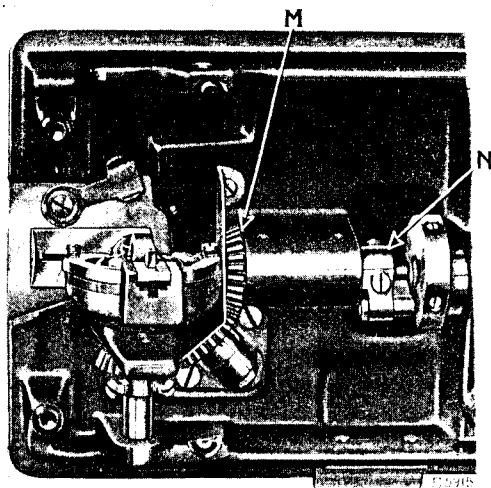

Fig. 21
Second—Tip the machine back and loosen the two screws in hook driving shaft crank (N, Fig. 21) at the right of the hook so that the hook can be moved by turning hook driving bevel gear (M, Fig. 21) with the fingers.
Fourth—With your fingers turn hook driving bevel gear (M, Fig. 21) in its regular direction until the point of the hook passes the needle about  $\frac{1}{4}$  inch, then carefully and slowly push the hook backwards until the point of the hook is at the centre of the needle and  $\frac{3}{32}$  inch above its eye and securely fasten the two screws in the crank (N), provided neither the needle bar or hook has moved since stationed as directed, as there must be no lost motion between the heel of the hook and the hook driver when the machine is correctly timed.